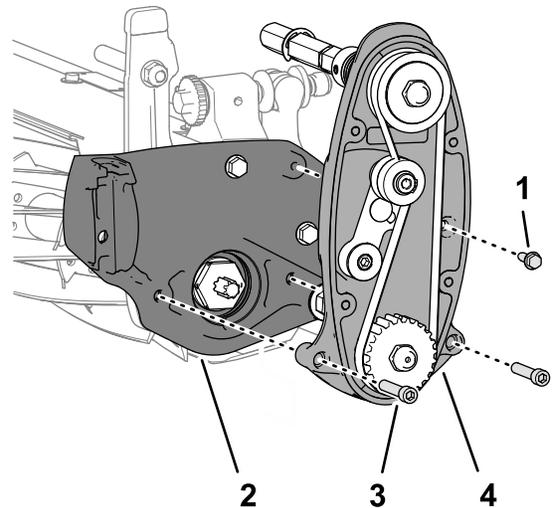

Figure 7
3. Remove the 2 socket-head screws (5/16 x 1-1/2 inches) from the 2 locknuts (held captive in the side plate) that secure the reel-drive assembly to the side plate of the cutting unit, and remove the reel drive (Figure 7).